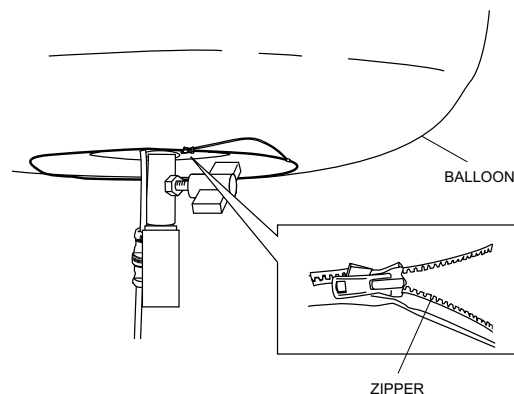

Figure 24. Unzipping Balloon
1. Slightly unzip the bottom of the balloon to gain access to the dimmer switch (Figure 24).